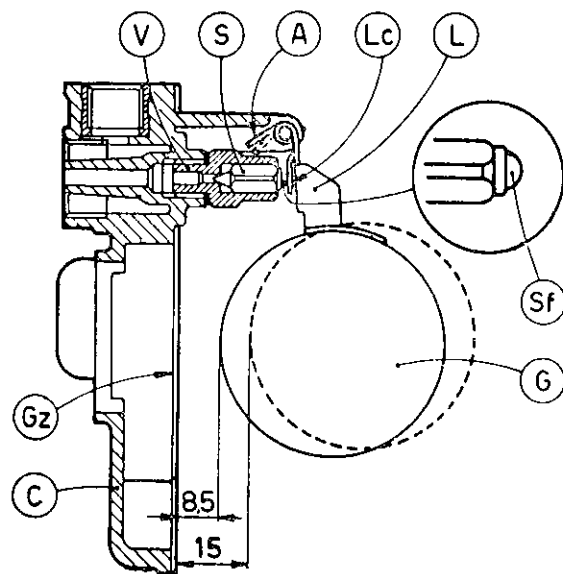

Fig. 19
#### Directions for Levelling the Float (Fig. 19)
- Make sure that the weight of the float (G) be the correct one (gr. 26), that the float can freely slide on the axis and does not show any pit.
- Make sure that needle valve (V) is tightly screwed in its housing and that pin ball (Sf) of the damping device, incorporated in the needle (S), is not jammed.
- Keep the carburettor cover (C) in vertical position as indicated in Fig. 19 since the weight of float (G) could lower the pin ball (Sf) fitted on the needle (S).
- With carburettor cover (C) in vertical position and float clip (Lc) in light contact with the pin ball (Sf) of the needle (S), the distance of both half-floats from upper surface of carburettor cover (C) with gasket (Gz) in its place, must measure 8,5 mm.
- After the levelling has been done, check that the stroke of float (G) is 6,5 mm. If necessary, adjust the position of the lug (A).
- In case float (G) had not been rightly set, rectify the position of float clip (Lc) till the required quota is reached, taking care that clip (Lc) does not show any pit on the contact surface that could affect the free sliding of the needle (S).